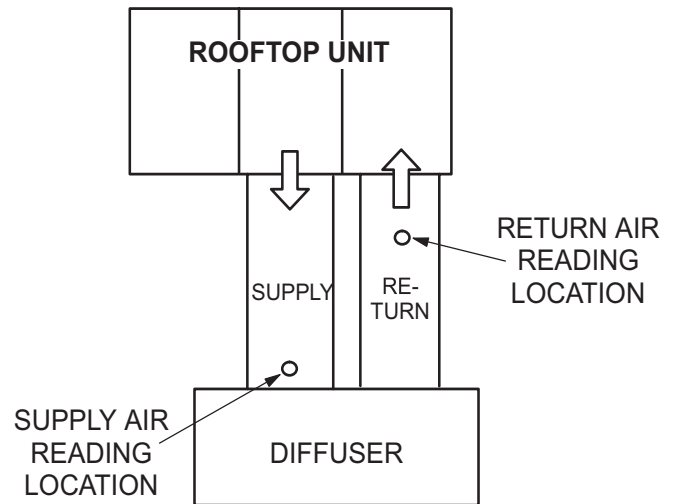

FIGURE 9
- 2 - With all access panels in place, measure static pressure external to unit (from supply to return). Add any additional air resistance for options and accessories shown in accessory air resistance tables. Blower performance data is based on static pressure readings taken in locations shown in FIGURE 9.